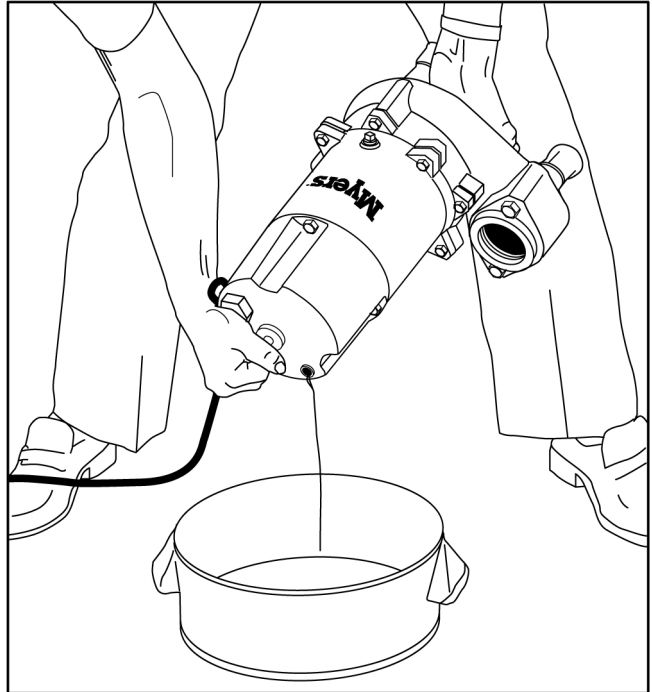

FIG. 8
1. Remove oil fill plug in top of motor and pour out oil. Fig. 8